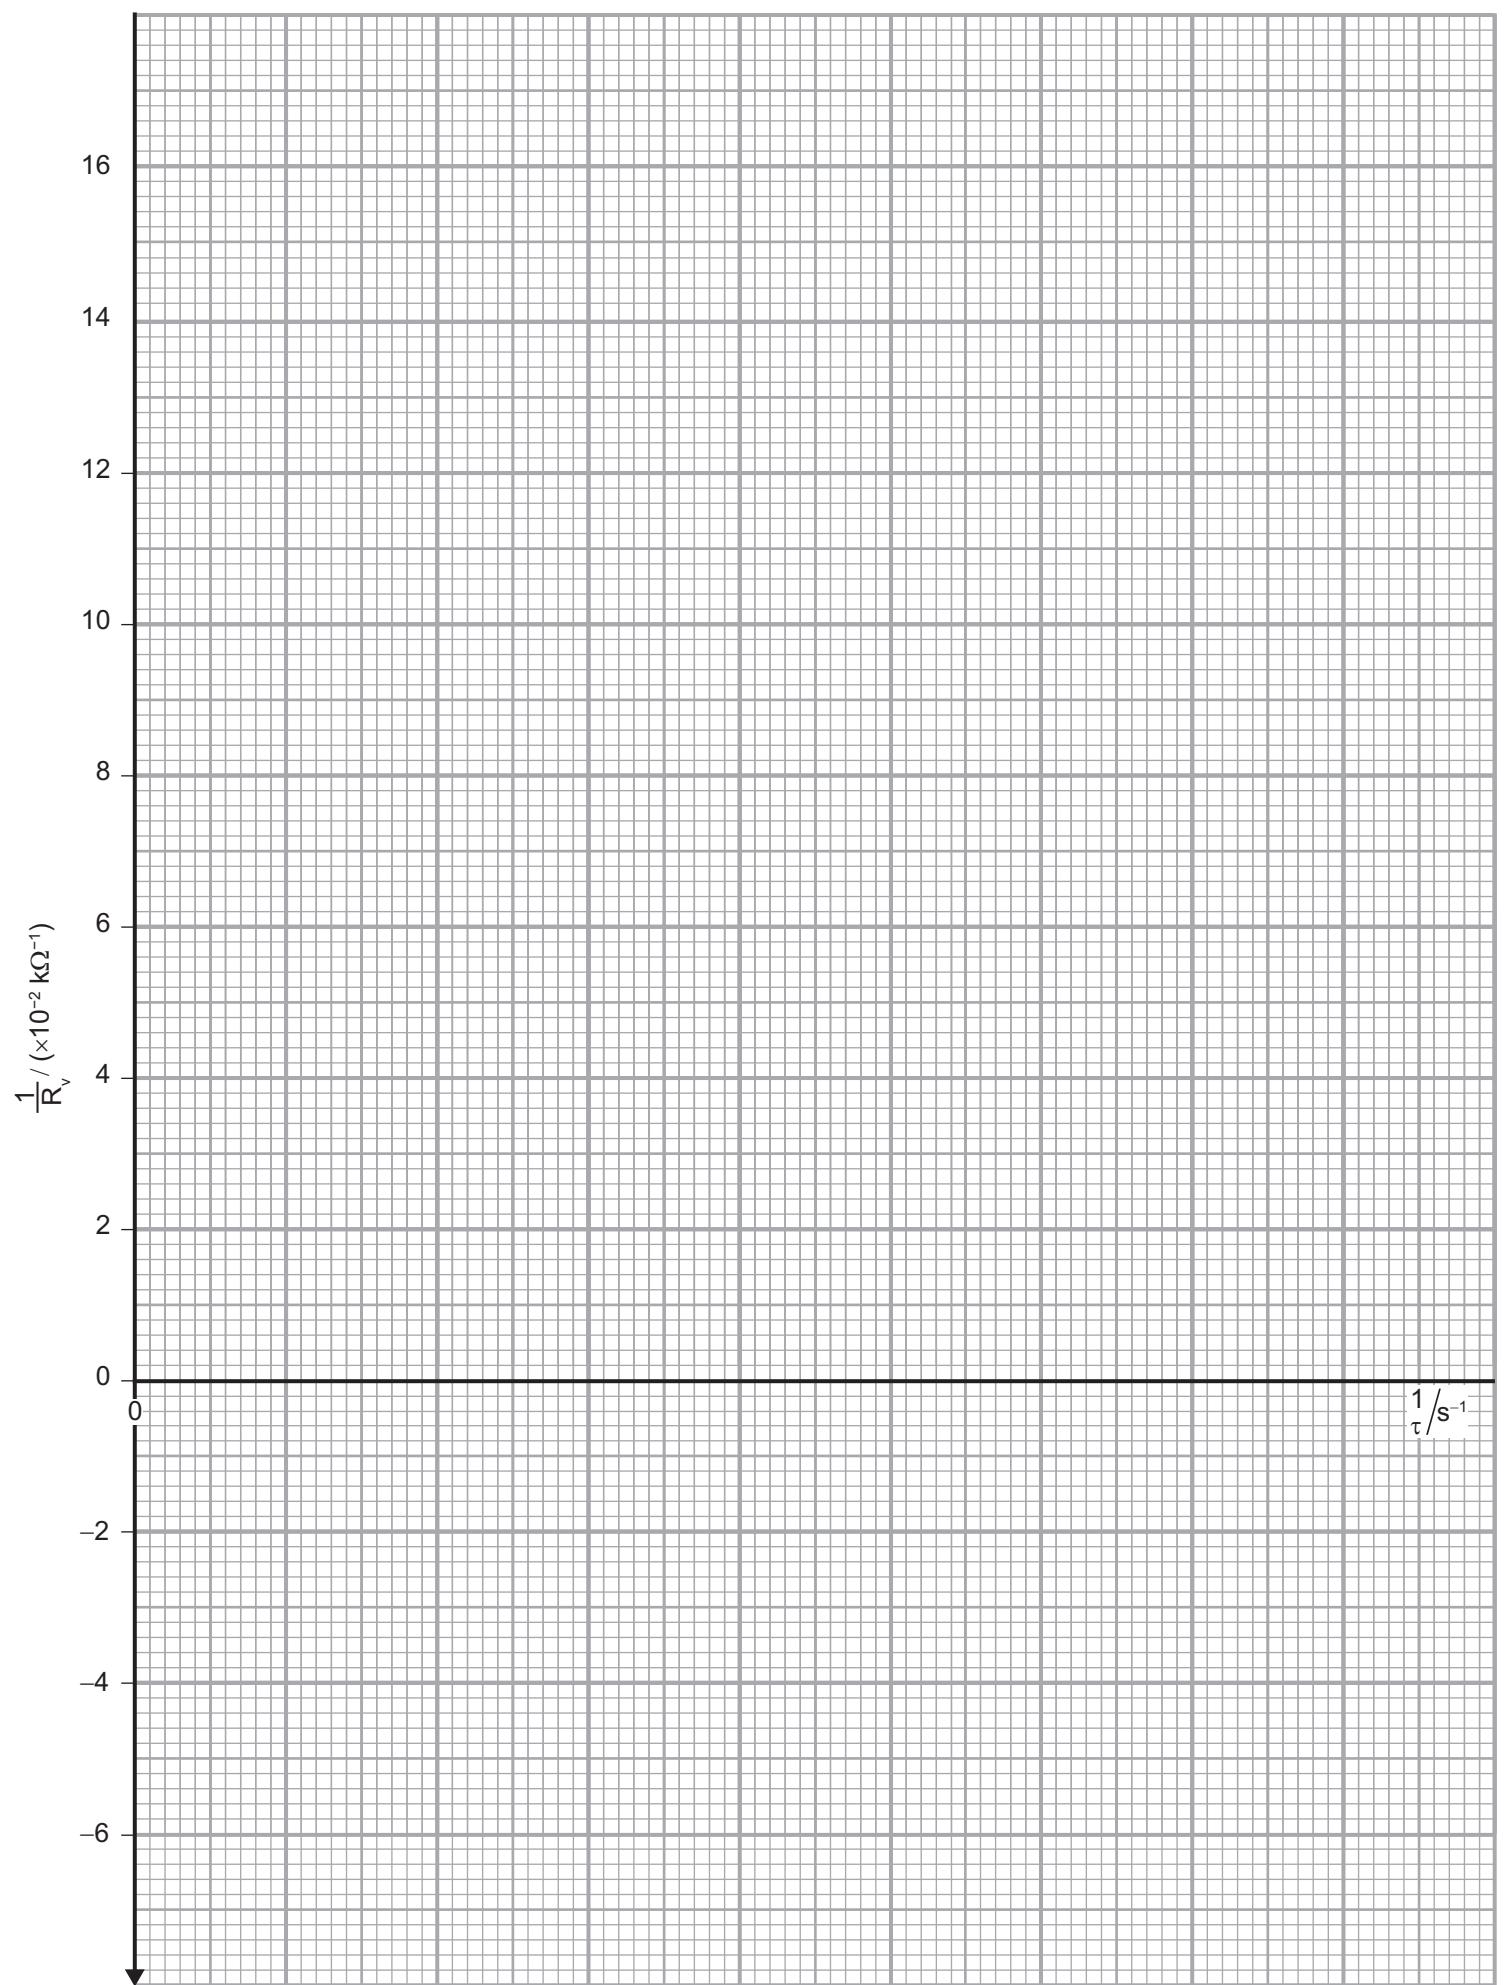

Fig. 2.2
- (ii) Choose a scale for the x-axis, plot the graph of $1/R_V$ against $1/\tau$ on the grid of **Fig. 2.2** and draw the best fit straight line for the points plotted. [4]